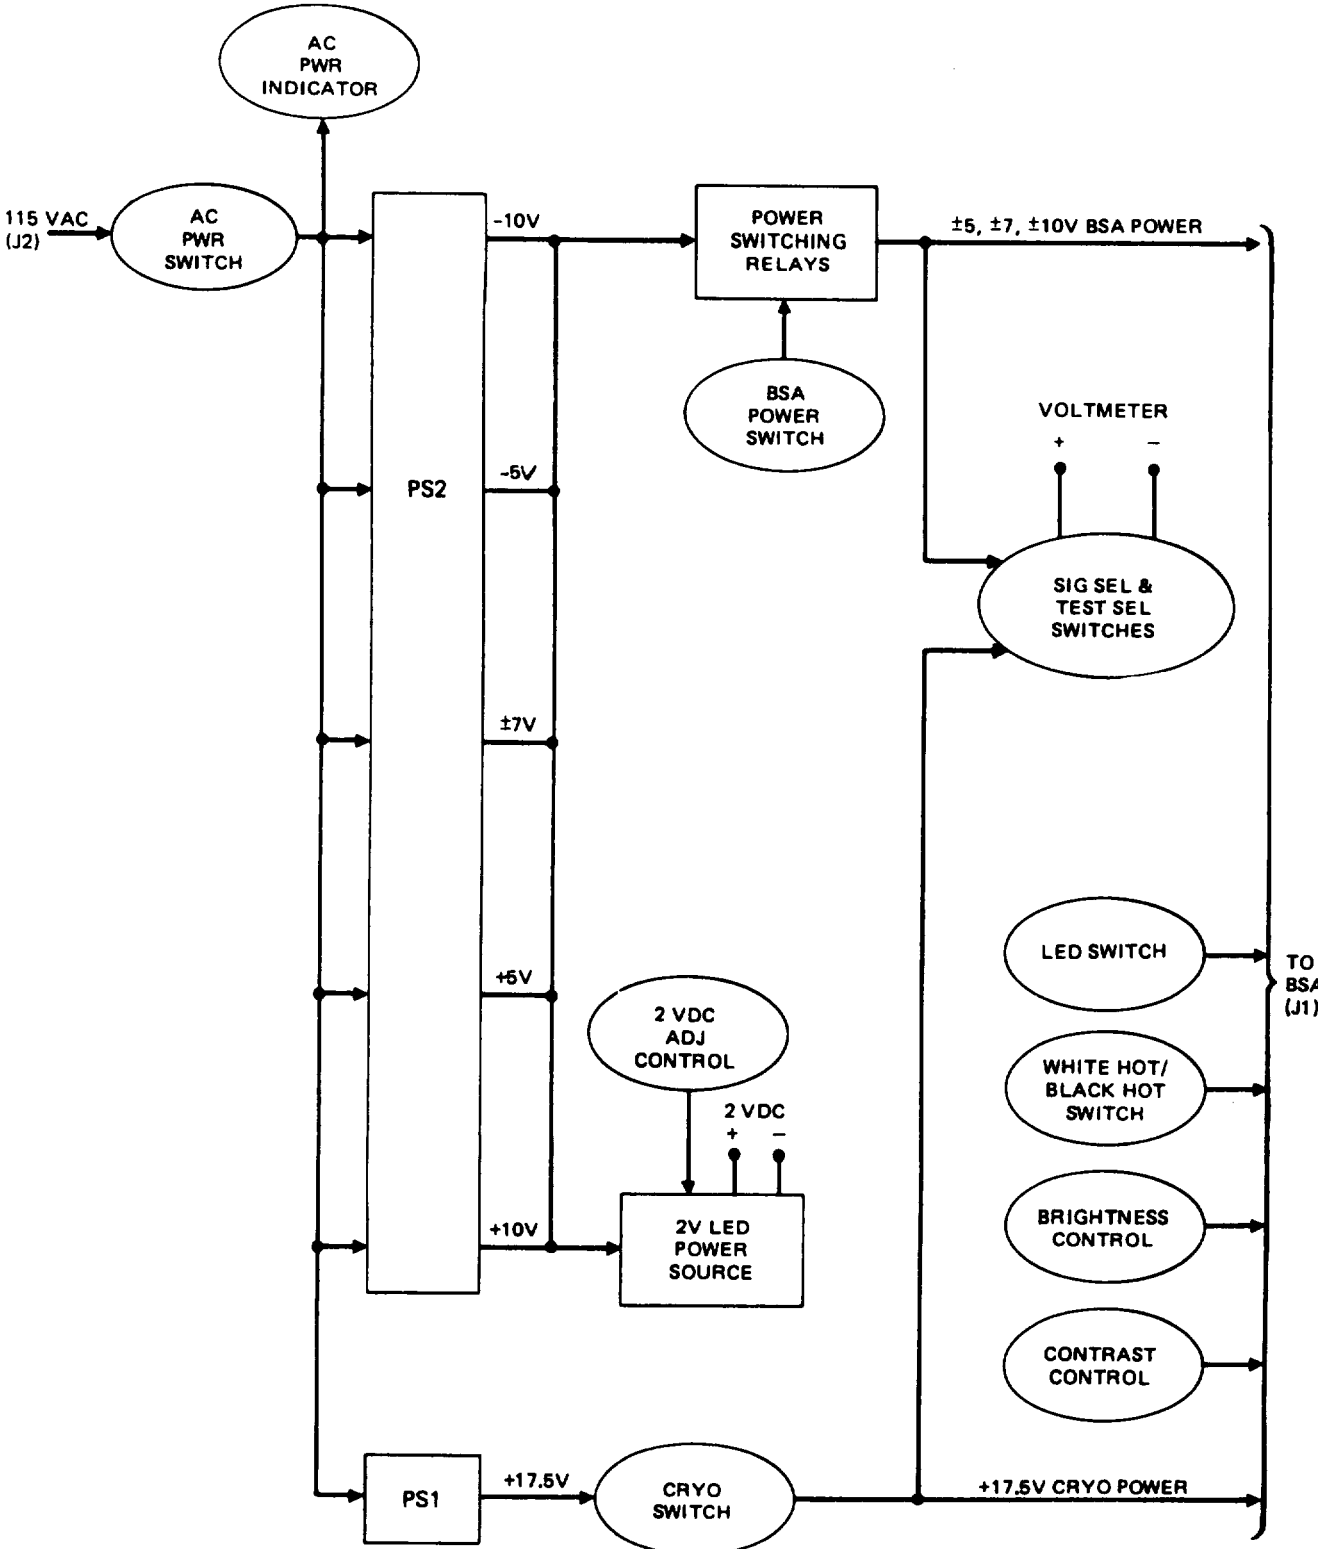

Figure 1-14. BSA Controller Block Diagram.
*b. BSA Controlled* The BSAC provides the power sources, switches, controls, and test points required to power, control, and functionally test the basic sight assembly (BSA) of the TSS. A block diagram of the BSAC is provided in figure 1-14. The BSAC is powered by 115 volt, 60 hertz, single phase